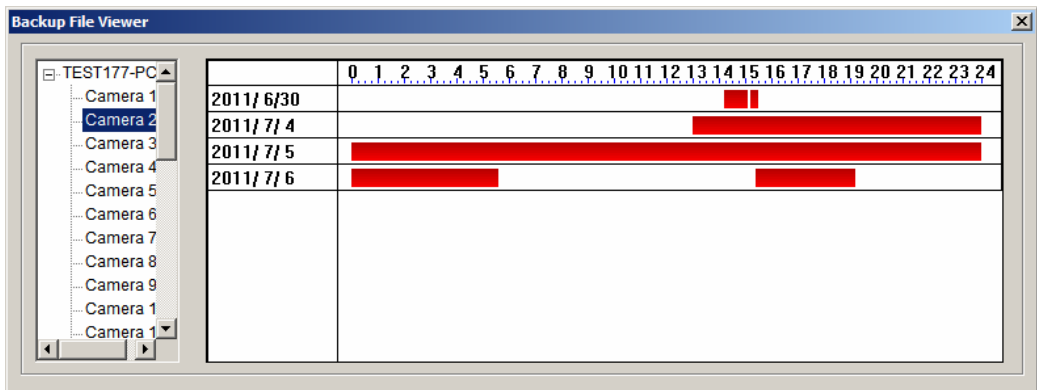

Figure 11-51
2. Run **Backup Viewer**. The Backup Viewer window (Figure 11-51) appears.